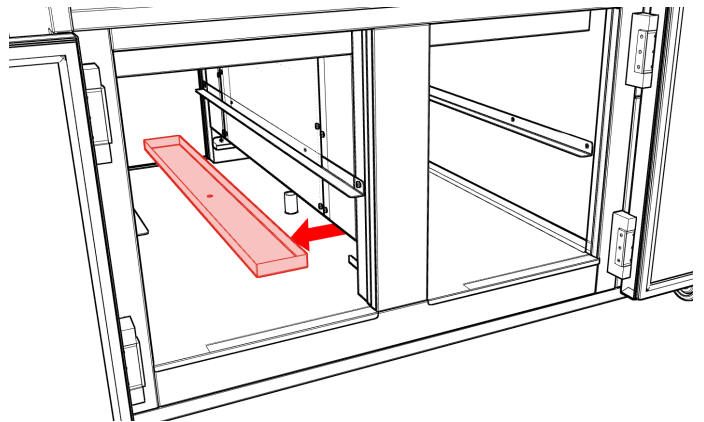

Fig. 10
2. Lift and remove condensate pan from angle brackets at bottom of evaporator module (Fig. 10).